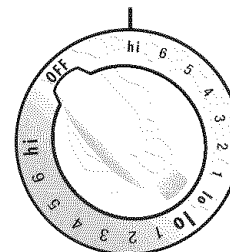
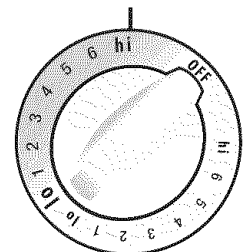
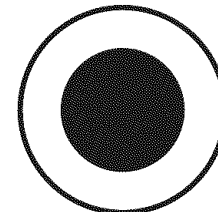
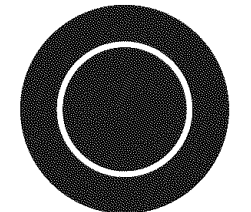

Figure 2
Figure 3
Figure 4
Figure 5
Some models have 1, 2, 3 or 4 Dual Radiant Surface Elements. Heat power levels are adjusted by a special control knob that has a dual set of graduations; for small utensils use the small graduations (Figure 2); the inner surface only will be heating (Figure 4). For larger utensil use the larger graduations (Figure 3); the whole surface will be heating (Figure 5).
2. Push in and turn the control knob counterclockwise (See Figure 2) for smaller cookware or clockwise (See Figure 3) for larger cookware.
Note: See Figure 2 on page 5 for recommended control settings.